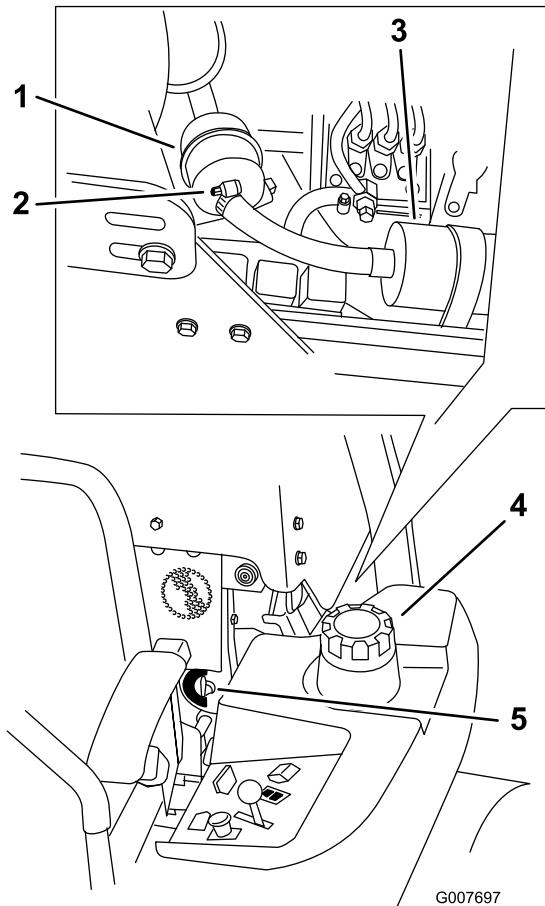

Figure 51
4. Close the fuel shut-off valve(Figure 51).
5. Loosen the two hose clamps and disconnect the fuel lines from the fuel filter (Figure 51).
6. Install a new filter. Connect the fuel lines to the fuel filter and install the two hose clamps (Figure 51).